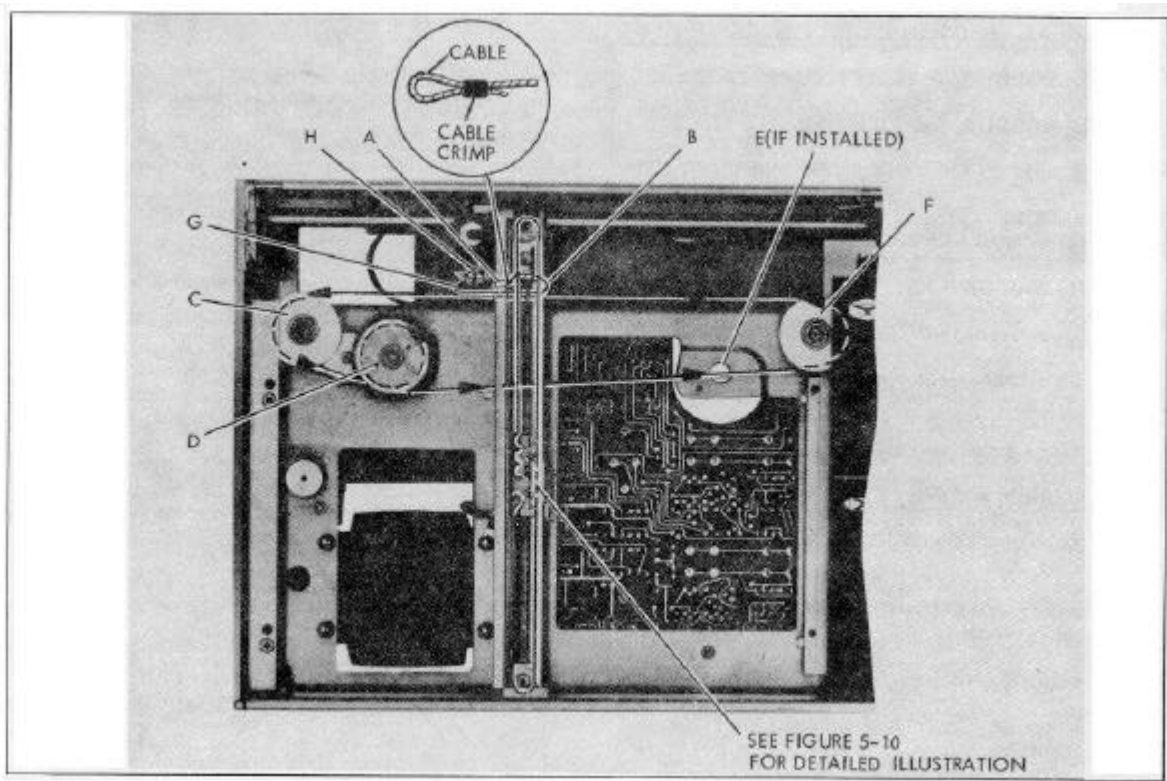

FIGURE 5-11. RESTRINGING DIAGRAM
c. Make small loop in one end of cable and clinch with cable crimp. See Figure 5-11.